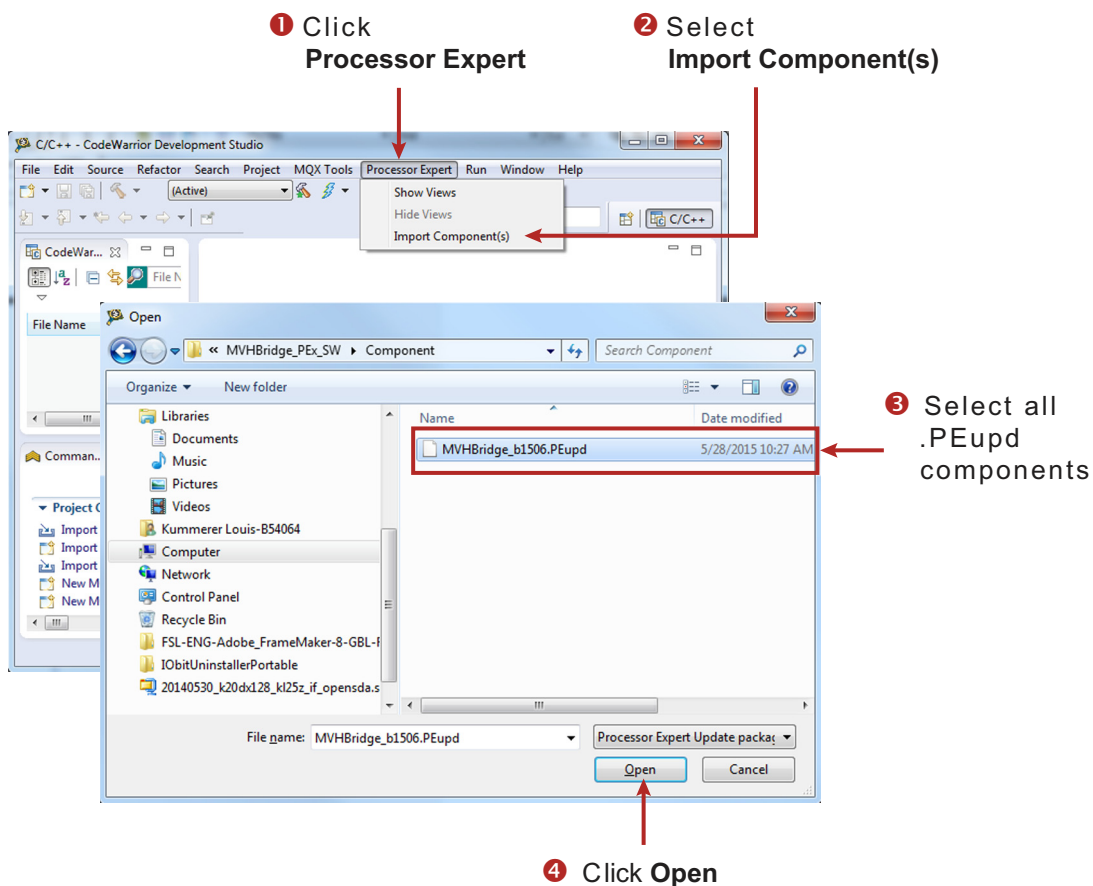

Figure 27. Import MVHBridge Component
3. In the pop-up window, locate the component file (.PEupd) in the example project folder MVHBridge_PEx_SW\Component. Select **MVHBridge_bxxx.PEupd** and **ChannelAllocator_bxxx.PEupd** files then click **Open** (see Figure 27).